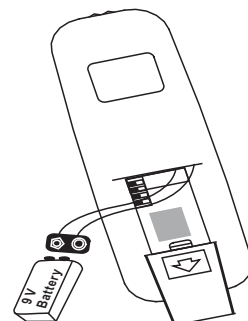

Figure 19
- Remove the battery cover from the remote control (G). Install a 9V battery (J) (included). Replace the battery cover. (Figure 19)